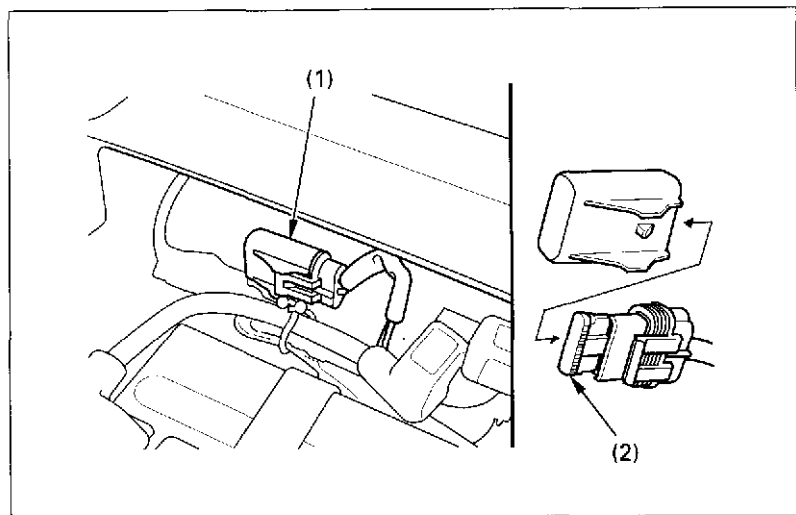

Fig. 4-18
As illustrated in Fig. 4-18, the fuse (2) is located in the battery compartment.
3. Remove the fuse holder assembly (Fig.4-18).